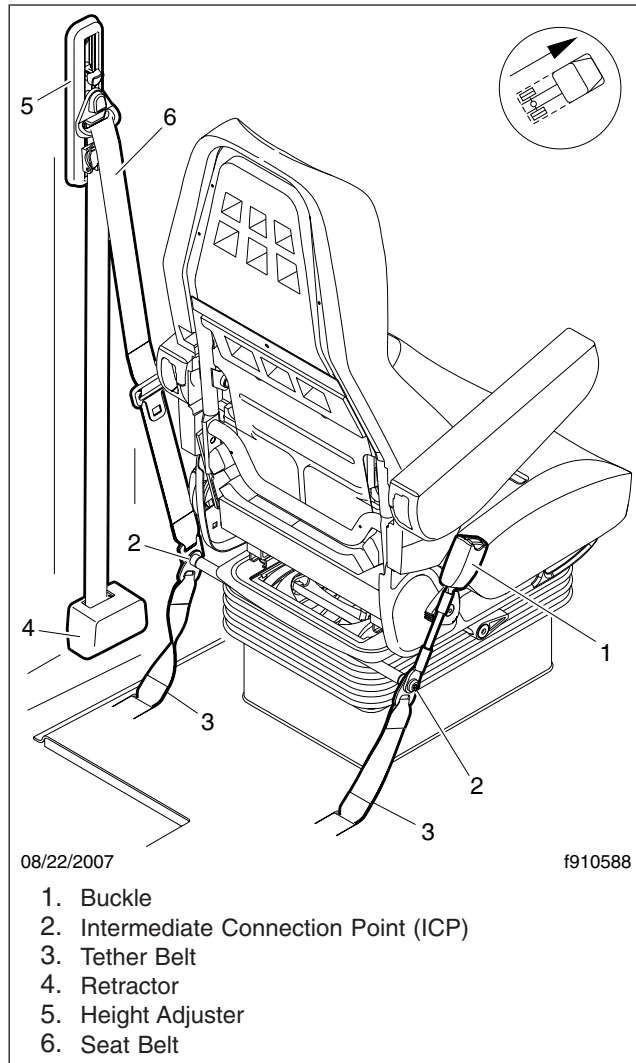

Fig. 2, Seat Belt Installation, Air Suspension Seats
- Remove the Torx® screws that attach the seat belt and tether belts to the intermediate-connection-point (ICP) bar. See Fig. 2.